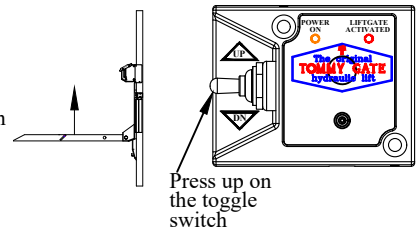

Figure 8: Step 11.
- Step 11. To raise (or lower) the load, push up (or down) on the toggle switch until the load has reached the desired position. **Be sure the folding mechanism is disengaged.** Do not allow the pump and motor to continue to run after the platform has reached its maximum height or after it has reached an obstruction (Figure 8).